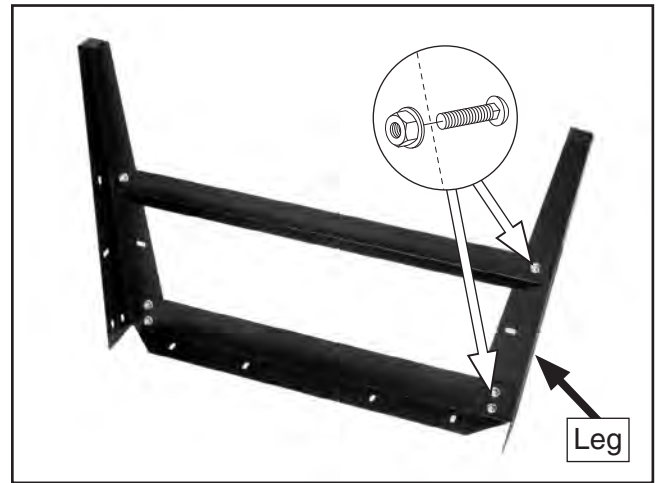

Figure 5. A completed stand leg assembly.
4. Secure a second leg to top and bottom long brackets, as shown in **Figure 5**.